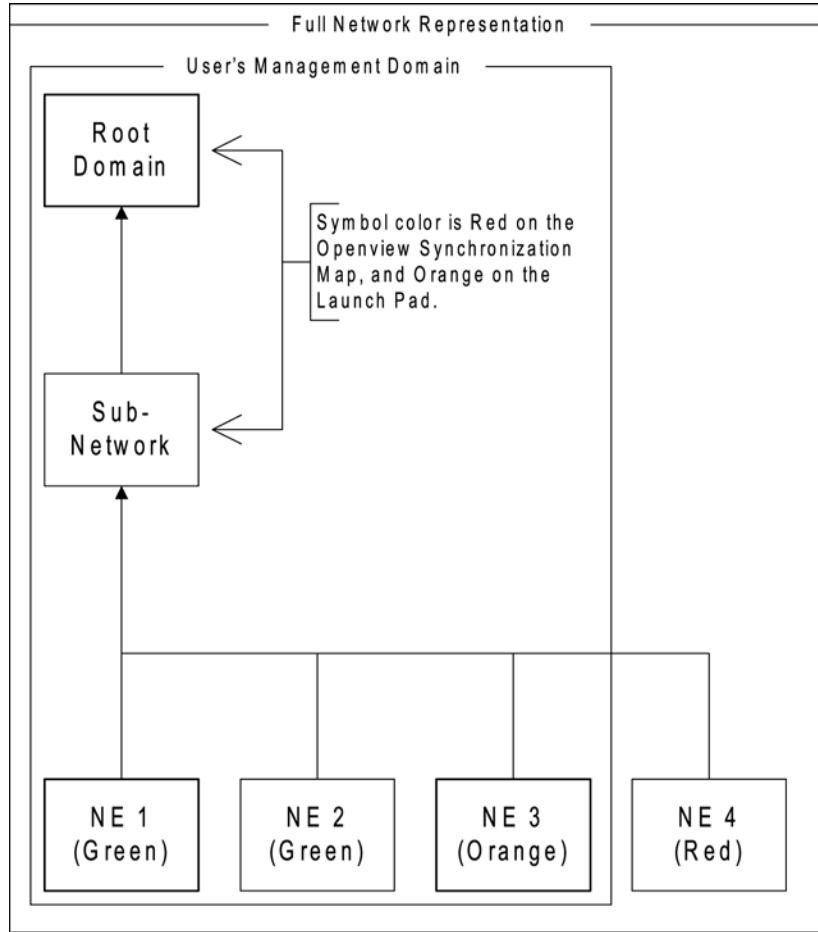

Figure 4-2. Status Propagation
2. In a Web-based user session, the status propagation shown in the Launch Pad takes into account only those NEs and sub-networks that are included in the user’s management domain. This is different from the status propagation shown in the Openview Synchronization Map, which takes into account all NEs and sub-networks. Figure 4-2 illustrates this: